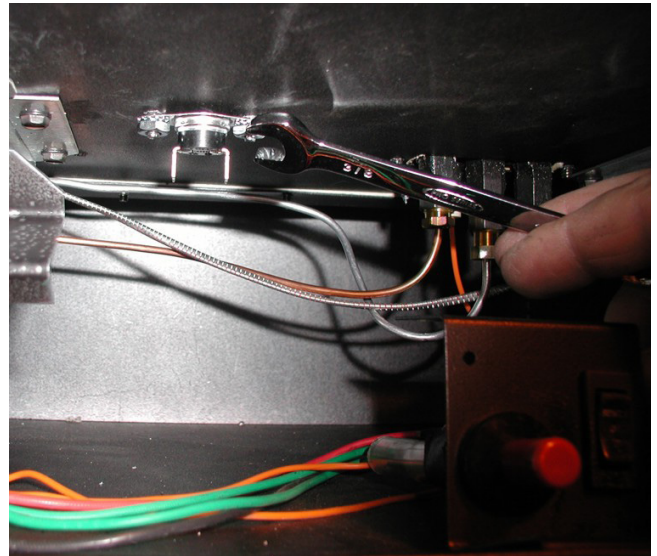

Figure 13
- Finger-tighten all (4) 1/4-20 Wing-nuts equally with moderate torque. It may be necessary to use needle-nose pliers to tighten, but over-tightening should be avoided.
- After the blower assembly has been installed and secured, locate the Fan Control Switch on the wiring harness and install it to the (2) threaded studs at the center of the firebox bottom with (2) # 8 Keps nuts. Use a 3/8" wrench or ratchet as shown in Figure 13. Do not over-tighten.